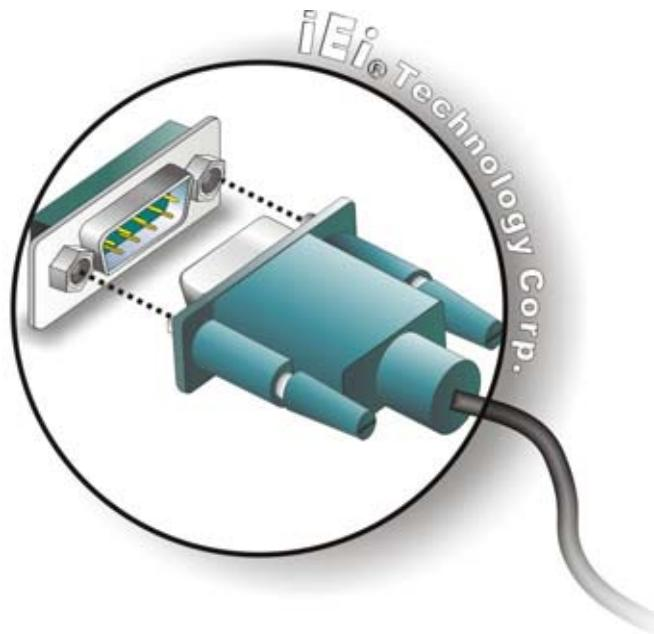

Figure 5-14: Serial Device Connector
Step 2: Insert the serial connector. Insert the DB-9 connector of a serial device into the DB-9 connector on the external peripheral interface. See **Figure 5-14**.